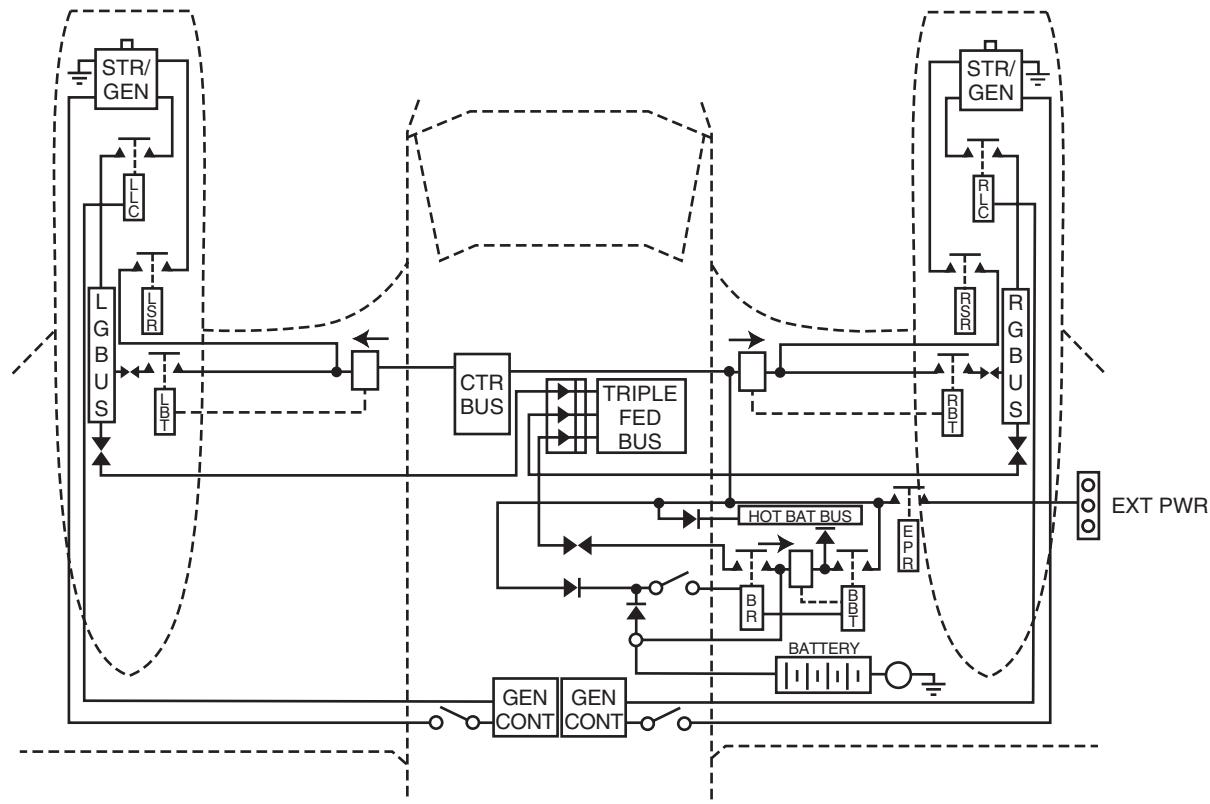

Figure 2-2 King Air 300 Electrical System Component Locations
The airplane electrical system is a 28-volt DC (nominal) system with the negative lead of each power source grounded to the main airplane structure (Figures 2-2 and 2-3). Direct Current (DC) electrical power is provided by one 24-volt, 34- or 36-ampere-hour, nickel-cadmium battery, or 42 amp-hour sealed lead acid battery and two 28-volt, 300-ampere starter/generators connected in parallel (Figures 2-27 and 2-42). This system is capable of supplying power to all subsystems necessary for normal operation of the airplane. The battery and generator switches are used to control power from the battery and generators